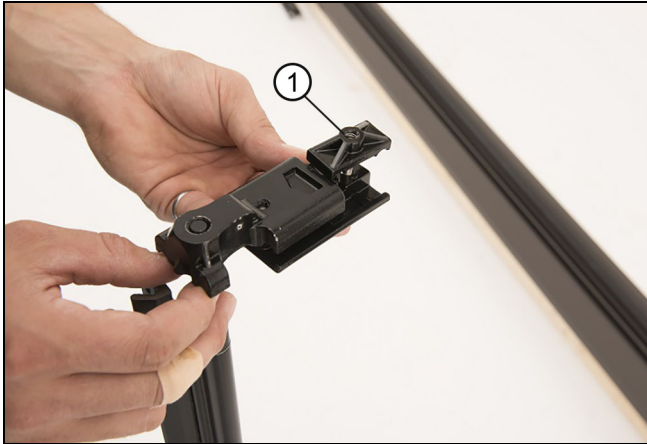

Figure 44
2. Install the top portion of any hinges 1 and 2 in the correct end of head track by loosening the two outer bolts but not removing them. See Figure 43 and Figure 44.